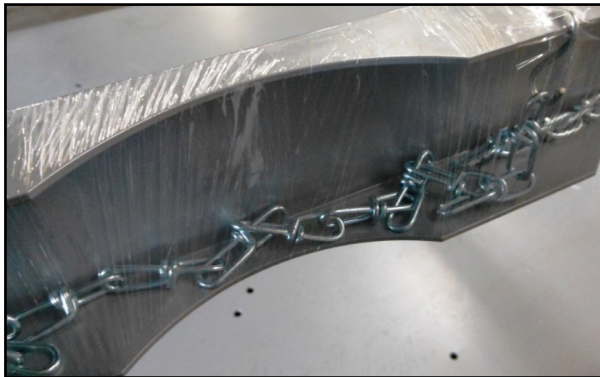

Figure 6 - Chain restraints to secure cylinders
- Install the appropriate number of high pressure cylinders onto the skid and secure them in place with the provided chain restraints (see Figure 6). Do not connect the cylinders to the manifold at this time, but inspect them for the following: